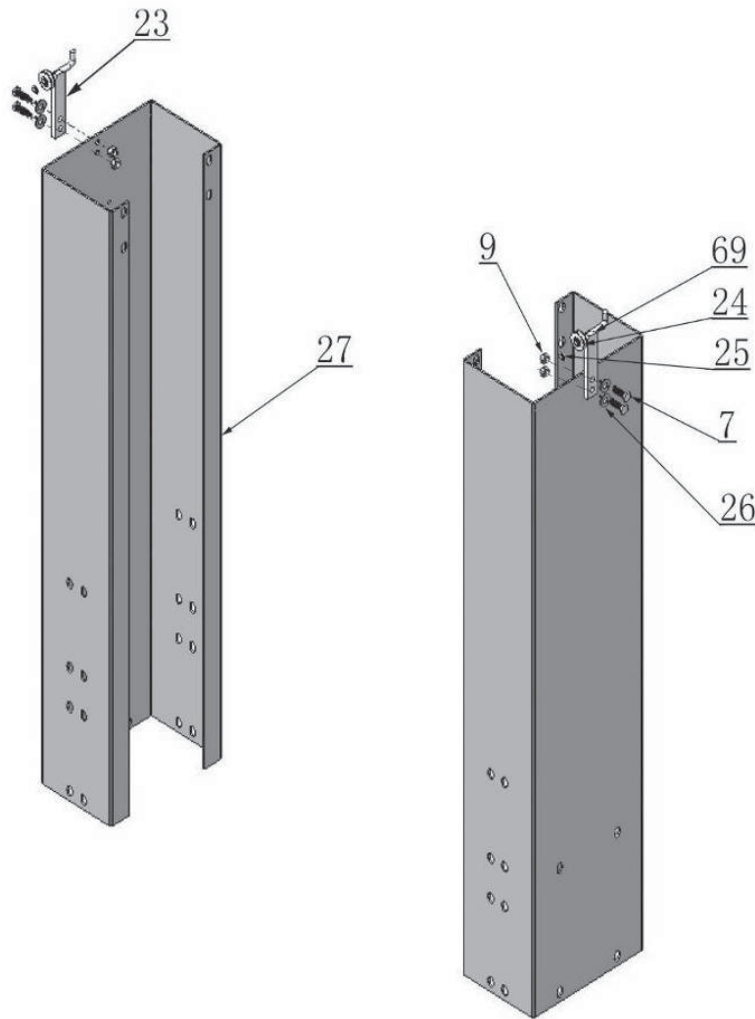

Fig. 12
D. Install the hydraulic hose and lock release cable brackets on the extension columns (See Fig. 12).